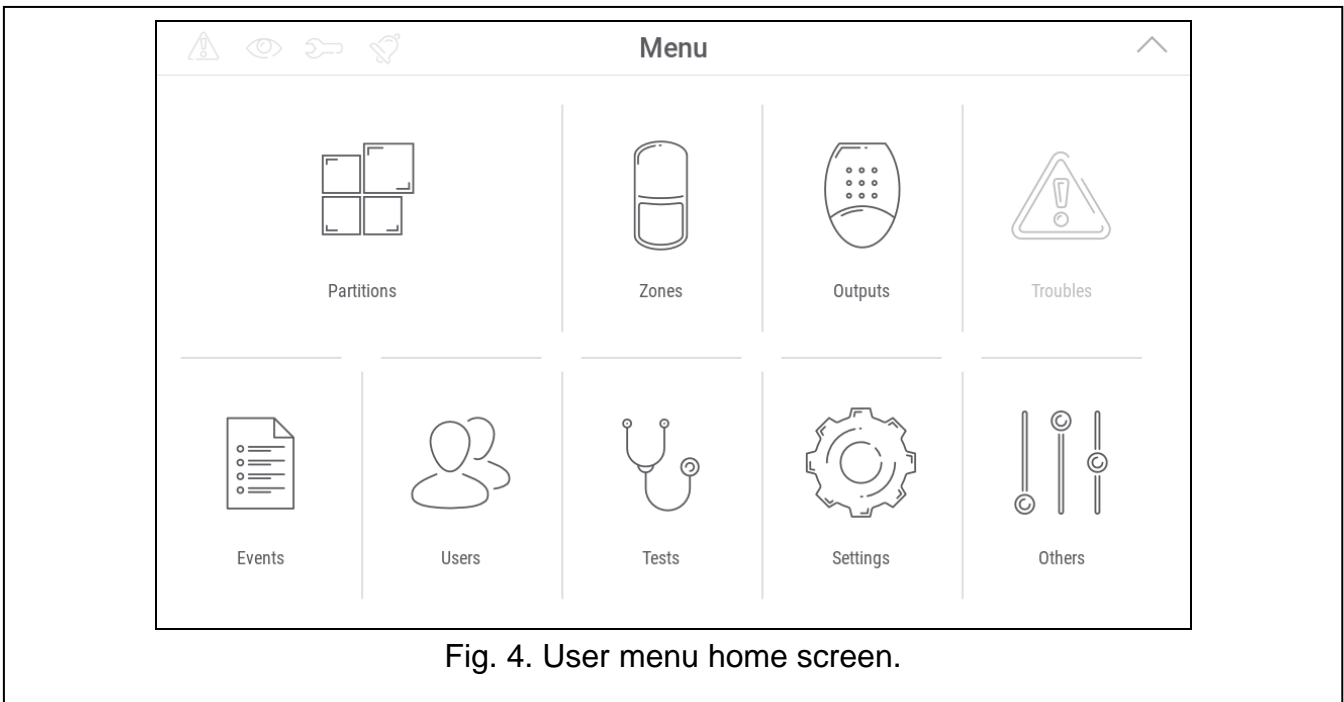

Fig. 4. User menu home screen.
- 3. Enter the service code (by default: 12345) and tap . The user menu home screen will be displayed (Fig. 4).